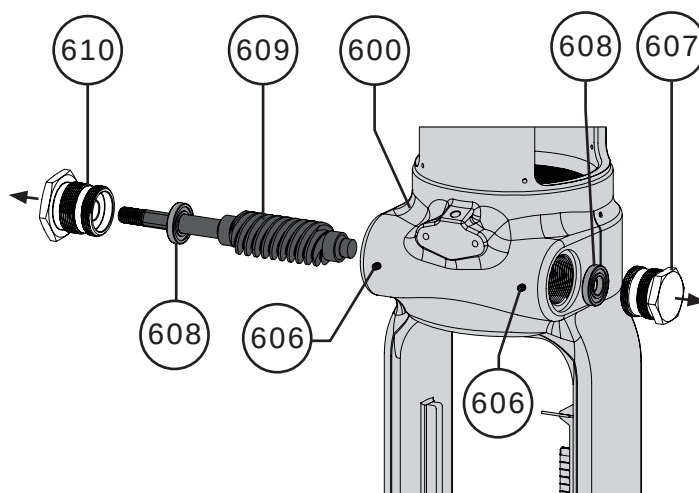

Figure 85 Worm Shaft Removal
- 21** Loosen the worm shaft retainer set screws (Key 606) and remove the worm shaft retainers (Keys 607 & 610). **NOTE:** The ball bearings (Key 608) can stick in the shaft retainers after removal, remove them if necessary. Remove the worm shaft (Key 609). Refer to Figure 85.